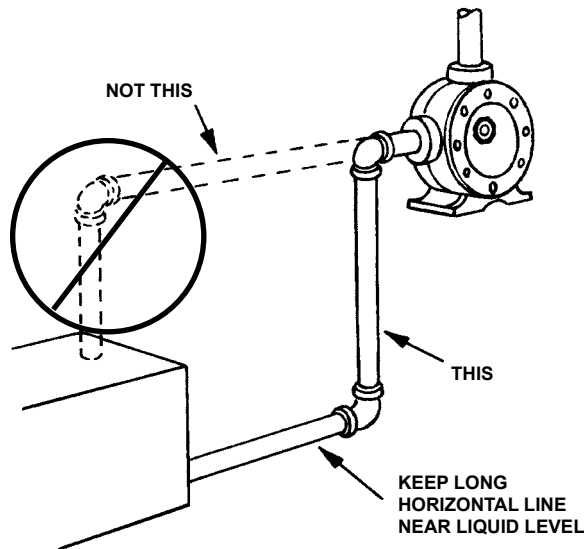

FIGURE 11
6. For a suction line with a long horizontal run keep the horizontal line below the liquid level if possible. This keeps the pipe full so the pump does not have to remove so much air when starting; this is most helpful when there is no foot valve. See Figure 11.